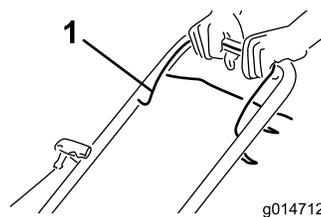

Figure 15
1. Hold the blade-control bar (Figure 15) against the handle.